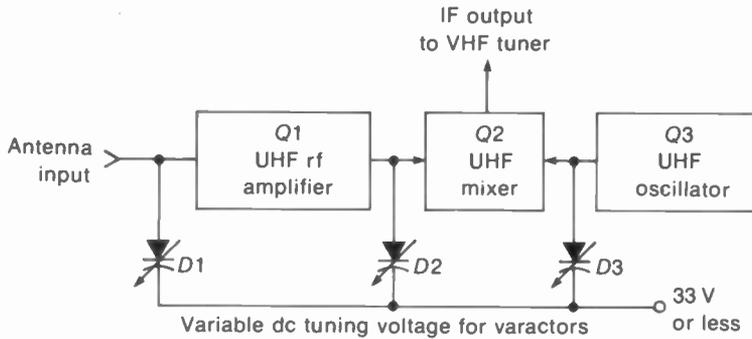

FIGURE 24-25 BLOCK DIAGRAM OF UHF TUNER WITH VARACTOR TUNING. (FROM ADMIRAL M25 CHASSIS)
**UHF varactor tuner.** In Fig. 24-25, varactors are used to tune  $Q1$ ,  $Q2$ , and  $Q3$ , instead of using variable capacitors. Each of the varactors is provided with a dc voltage that tunes the stage to the desired frequency. The dc tuning voltage